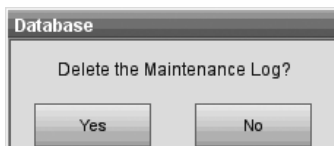

Fig. 6-29 Delete Maintenance Log
5. Confirm your choice by pressing  **Yes** in the **<Delete the Maintenance Log?>** screen (Fig. 6-29).